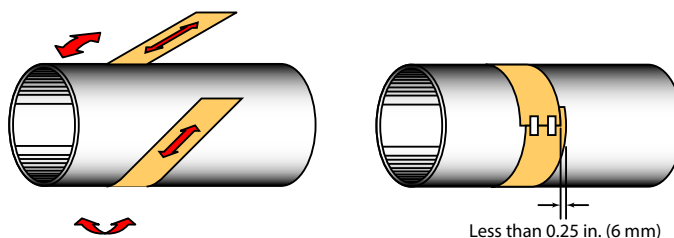

Figure 15: Paper template alignment
1. Wrap the paper around the pipe as shown in Figure 15. Align the paper ends to within 0.25 in. (6 mm).